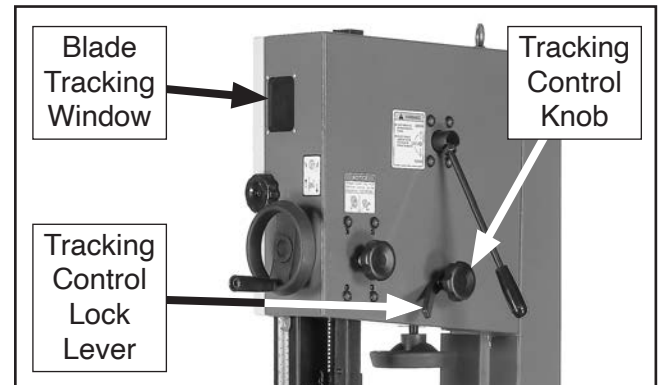

Figure 45. Fine-tune tracking controls.
3. If necessary, loosen tracking control lock lever and use tracking control knob (see **Figure 45**) to adjust the blade so it tracks on the center of the wheel.
4. Tighten tracking control lock lever (see **Figure 45**) to secure setting, then turn machine **OFF**.